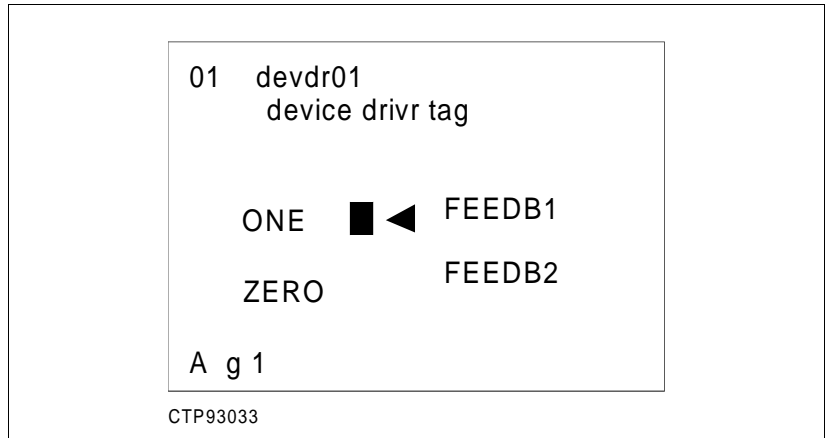

Figure 12-6. Device Driver (DD)
A Device Driver (DD) shows the current switch state and operating mode of a tag (Figure 12-6).